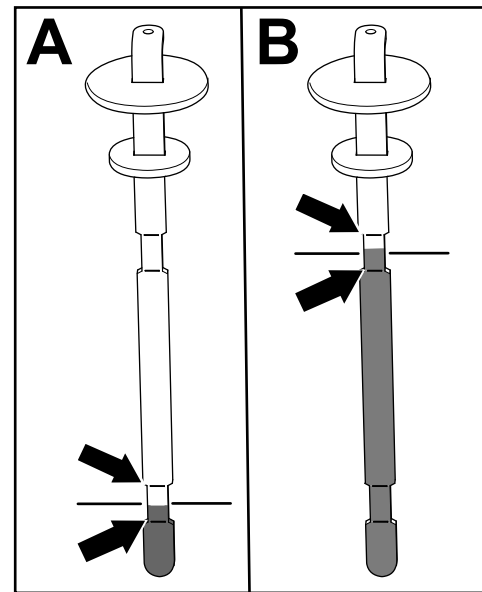

Figure 79
5. Remove the dipstick and check the fluid level (Figure 79).
- **If you have a cutting unit equipped:** The hydraulic-fluid level is at the appropriate level when the fluid appears between the lower 2 marks on the dipstick (A in Figure 79). It is also acceptable for the fluid level to be above the lower marks.
- **If you have the Hydraulic Driven Attachment Hose Kit equipped:** The hydraulic-fluid level is at the appropriate level when the fluid appears between the upper 2 marks on the dipstick (B in Figure 79).